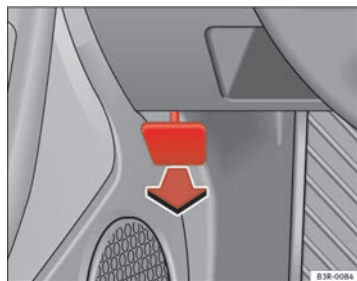

Fig. 167 Detail of footwell area on driver's side: lever for unlocking the bonnet.
- To release the bonnet, pull the lever under the instrument panel ⇒ **fig. 167** in the direction indicated (arrow).